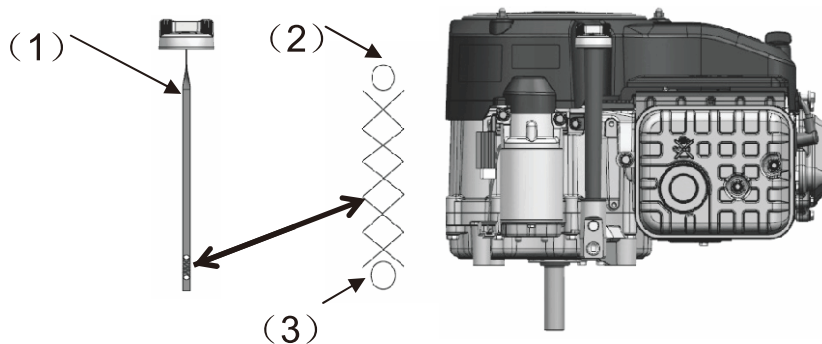

Figure 5
- c. Add lubricating oil to upper limit of oil level if the oil level is low. See Fig. 5.